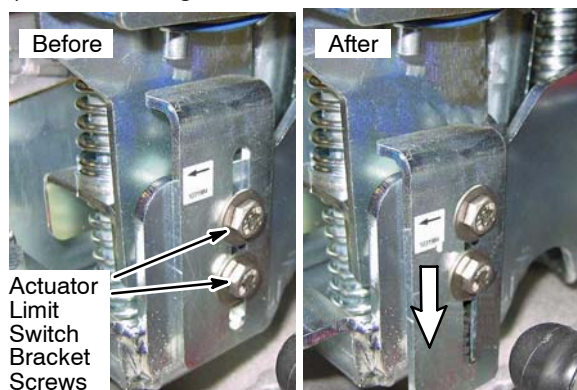

Fig. 6
6. Loosen the two screws on the actuator limit switch bracket and position the bracket as shown (Figure 6). Do not re-tighten screws at this time.